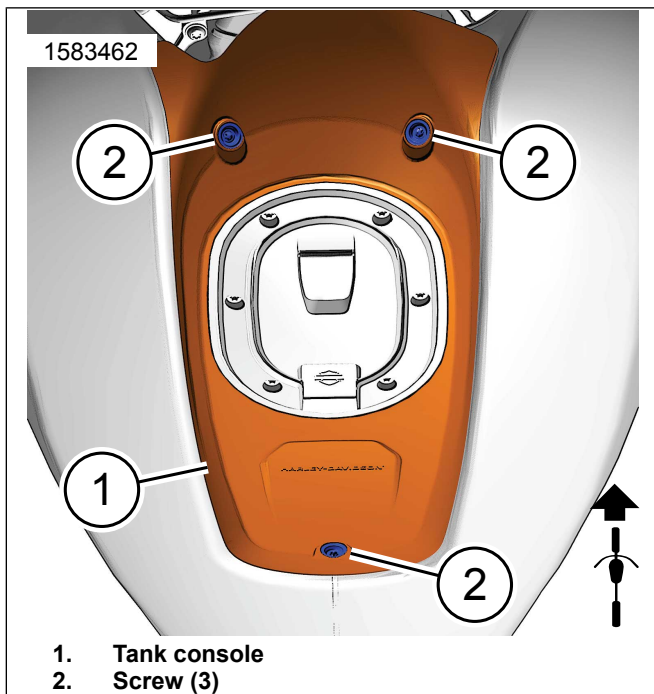
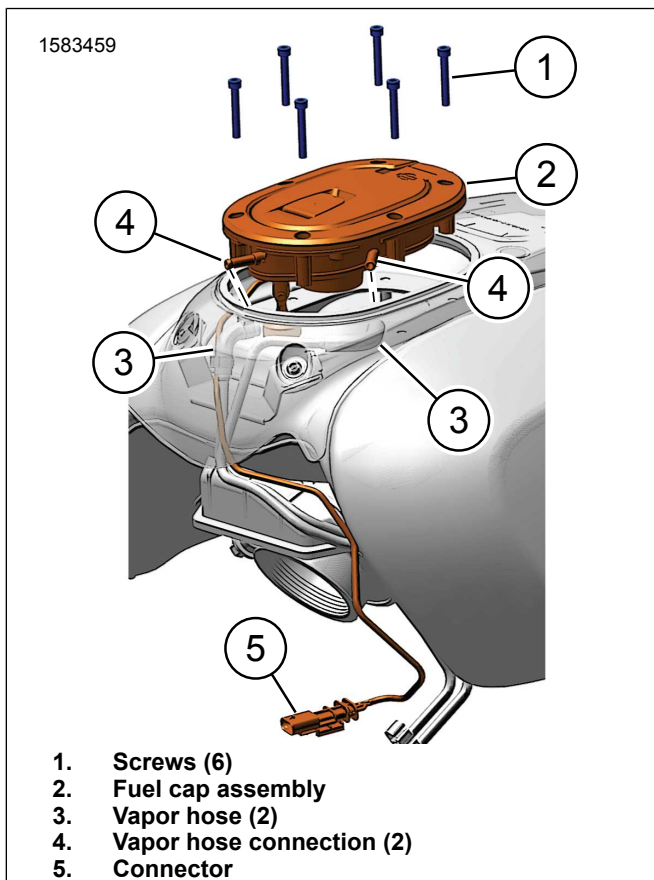

Figure 2. Tank Console
Figure 3. Fuel Cap Assembly Removal
1. See Figure 2. Remove tank console (1).
- a. Remove screws (2).
2. See Figure 3. Remove existing fuel cap.
- b. Cut cable straps that secures connector (5) to vent lines.
- c. Disconnect connector (5) from vehicle harness.
- d. Disconnect vapor hoses (3).
- e. Remove screws (1). Retain.
7. See Figure 3. Install oval locking fuel cap assembly (2) with OE screws (1).
10. See Figure 3. Connect vapor hoses (3).
11. See Figure 3. Connect connector (5) to vehicle harness.
12. See Figure 2. Install tank console.